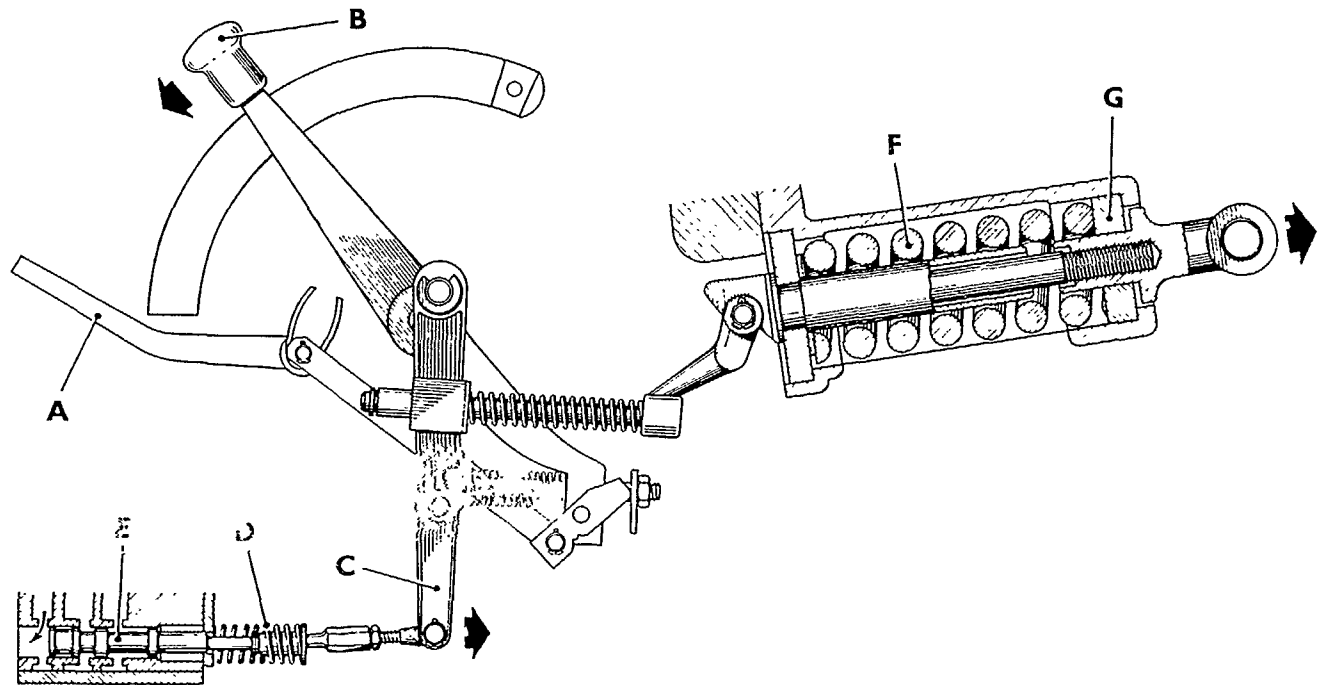

Figure 7
2. A decrease in draft will produce an increase in tension in the top link, Figure 7, and the draft control linkage will be drawn away from the actuating lever. This will increase the rearward compression on the draft control main spring and allow the control valve spring to move the control valve into the lowering position. As the implement runs deeper the draft will increase until such time as the original draft is obtained.